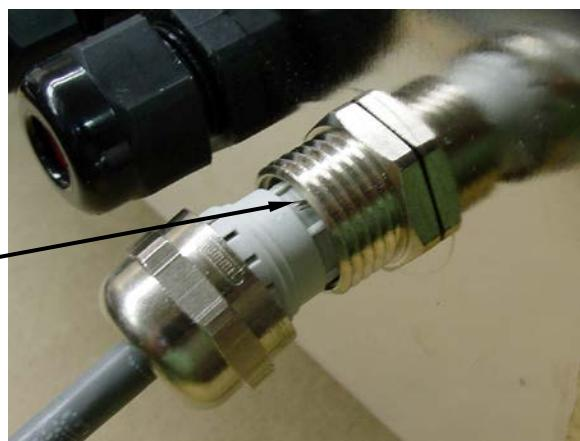

Figure No. 16
11. The shield wire is secured when tightening the gland connector nut. Do not overtighten the connector, but make certain it is snug. See Figure No. 16.